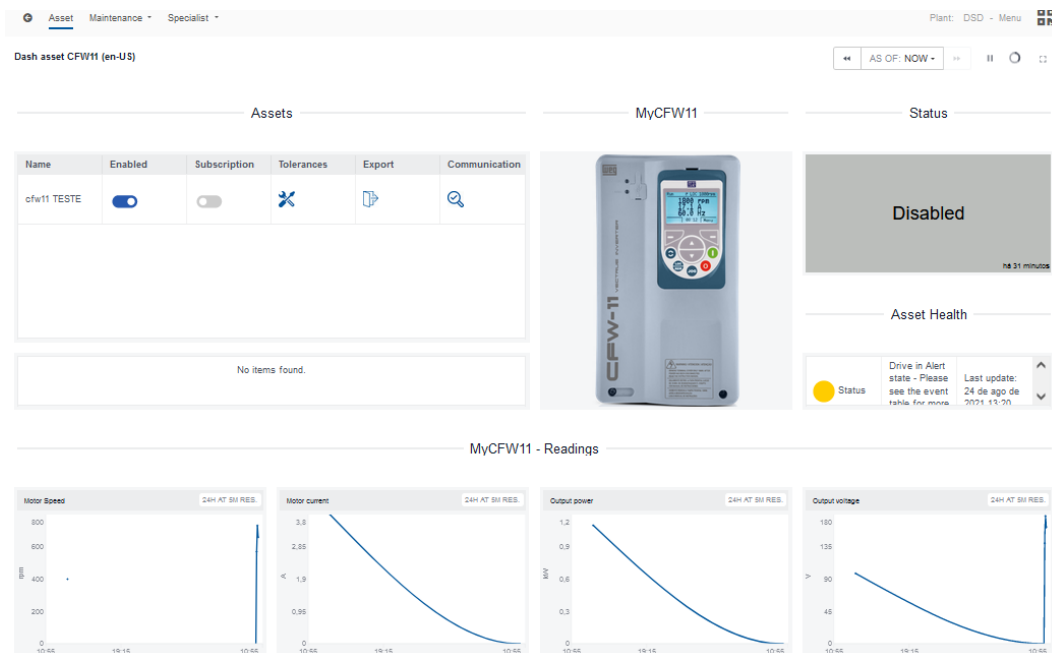

Figure 3.10: Dashboard of the drive registered on the MFM
**Step 9** A Figure 3.10 shows the dashboard of the drive newly registered on the MFM.